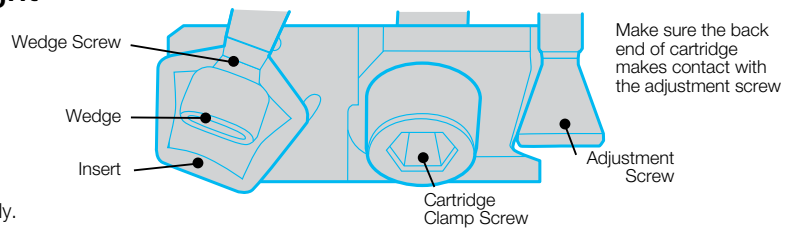
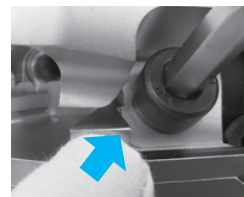

Fig.1
Fig.2
2. Make sure the back end of cartridge makes contact with adjustment screw (Fig 1), and pull them lightly inwards (Fig 2). Tighten the cartridge clamp screw temporary.